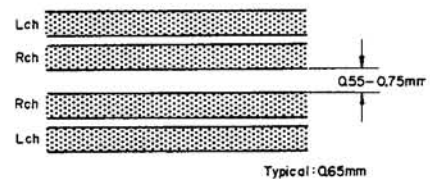

Fig. 2.17
- Immerse the recorded tape in a magnetized developing solution. In turn, check to insure that the recording head tracks across the center are separated with a distance of 0.55 to 0.75 mm (typically 0.65 mm) as illustrated in Fig. 2.17. Note: Liquid for tape magnetized development solution "MAGNA-SEE SOUND CRAFT" a product of CBS RECORDS a division of Columbia Broadcasting System, Inc., Danbury, Conn. 06810 U.S.A., or equivalent". After development, clean the tape otherwise pressure rollers and heads will become dirty.